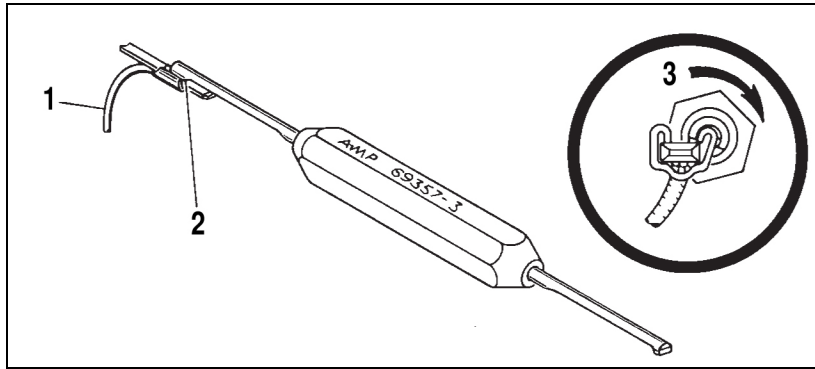

Fig. 36: Extraction Procedure 2
2. Twist tool in clockwise direction away from open portion of TERMI-POINT clip until clip is free (Fig. 36).